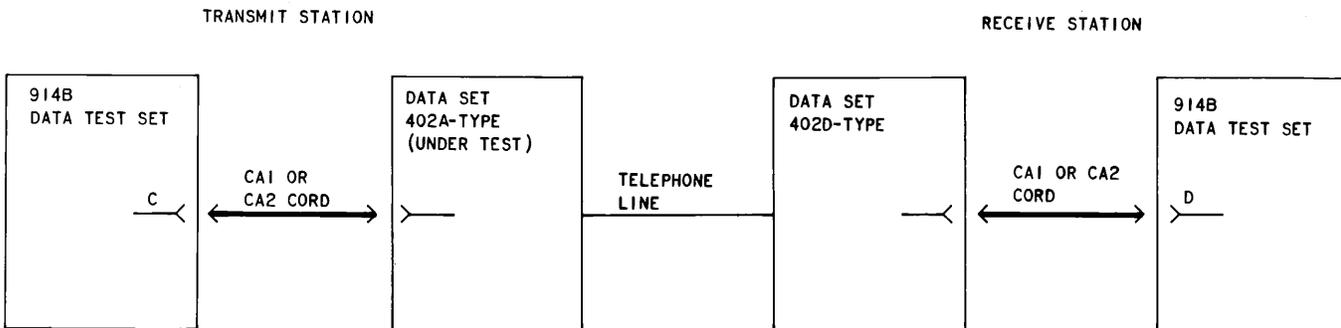

Fig. 5—Dynamic Test of Data Sets 402A and 402D-Type Using 914B Data Test Sets
3.10 Figure 5 shows the type of overall arrangement to be made when performing an end-to-end test. The attendant at the transmit station establishes communications between the two stations by using the telephone portion of the data set.